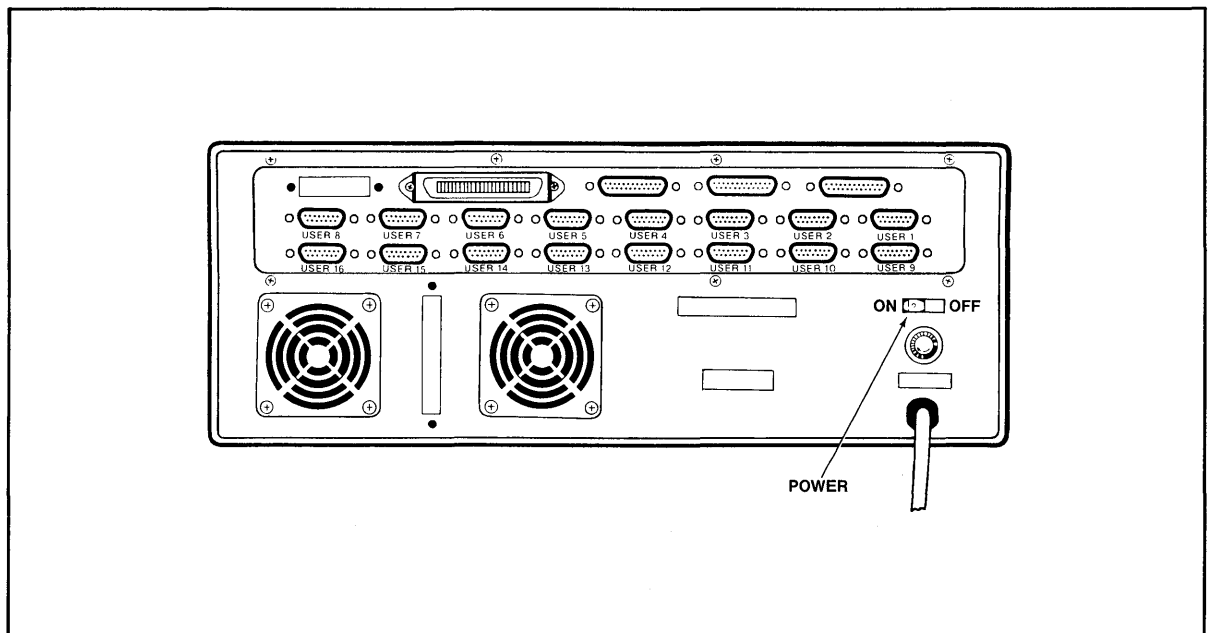

Figure 3-1 On/Off Switch on Rear Panel
2. Locate the ON/OFF switch on the right side of the rear panel of the TS 816/40. (Figure 3-1). This is a rocker-type switch.